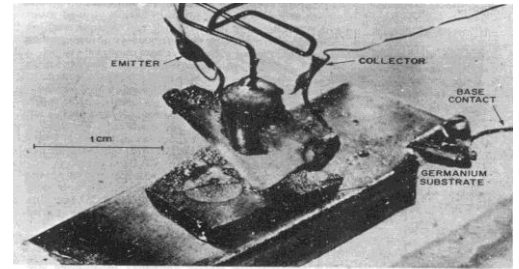

Fig. 1 The first transistor.¹
In the late 1940's, three physicists (Bardeen, Brattain and Shockley) invented the first transistor and were later awarded the Nobel Prize in 1956 (Figure 1). Texas Instruments commercialized the integrate silicon transistor (IC) in 1954 revolutionizing consumer products. The IC invention and commercialization came at a perfect point in history^{1,2}.